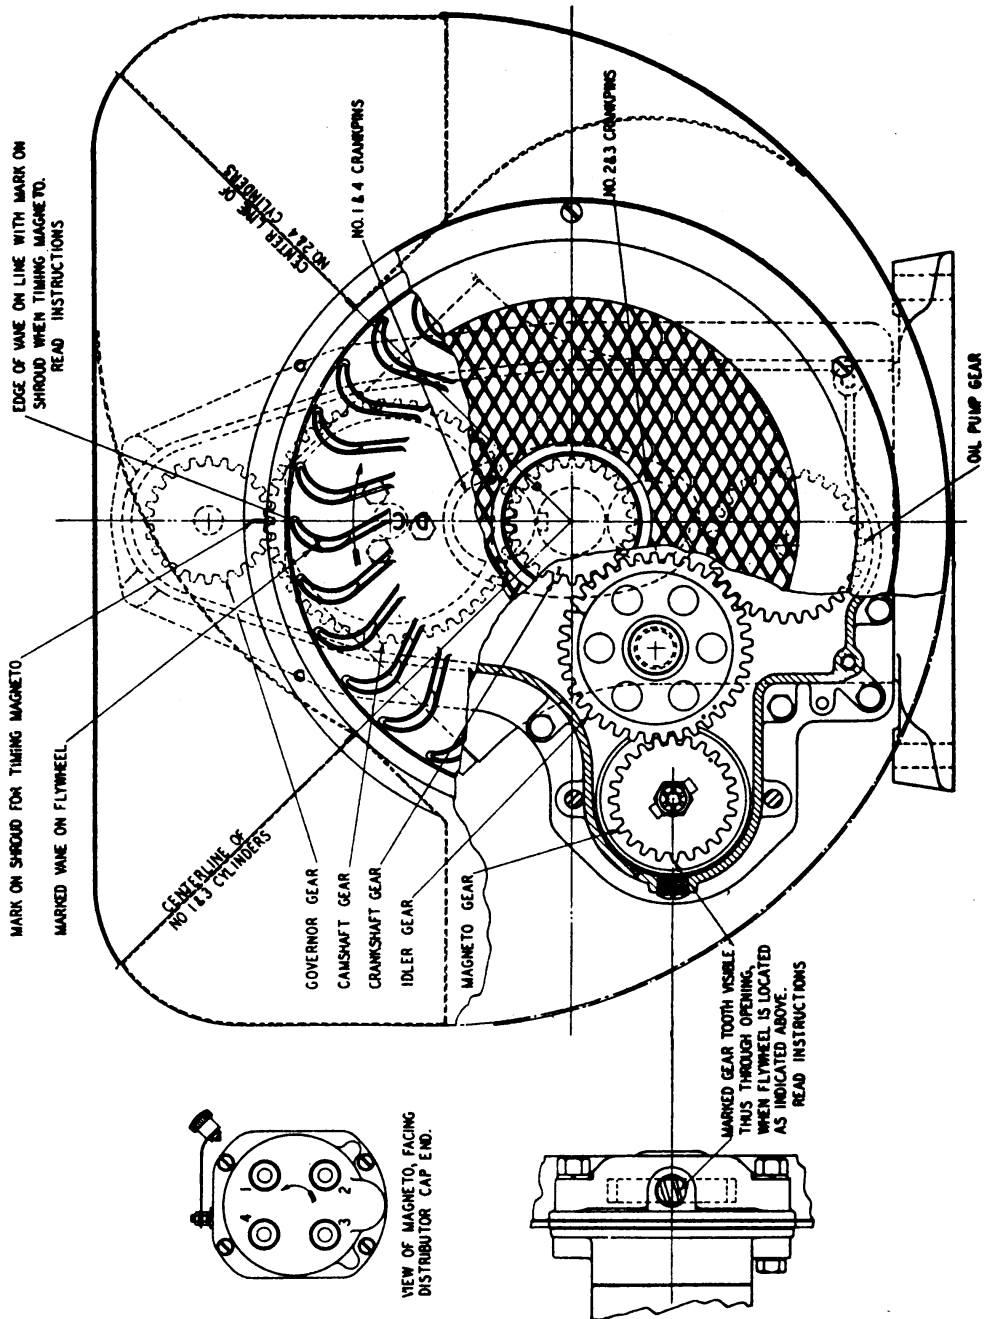

FIGURE 13.—Power Unit PE-99-G, timing diagram.
- i. **Service of Breaker Contact Points.** Contact point adjustment necessitates removal of the distributor housing which has a sealed gasket joint with the metal housing. The contact points should be examined for evidence of pitting or pyramiding. A small tungsten file or fine stone may be used to resurface the points. If the points are worn or badly pitted, they should be replaced. Points should be adjusted to have a .012 inch gap at full separation. Adjustment is made by loosening the round head locking screw at the upper end of the stationary point bracket (figures 13 or 14 or both) then turning the eccentric head adjusting screw until the proper gap is obtained, and locking the assembly by tightening the round head screw.
- m. **Special Drive Gear.** The magneto is equipped with special drive gears, mounted directly on the impulse coupling. The gear is a slip fit on the extended coupling nut, since movement of the gear with respect to the coupling nut (and rotor shaft) occurs during the impulse period. If it is necessary at any time to remove the drive gear, special care must be exercised in reassembly. First, remove the entire end cap and turn the rotor until the contact segment is in firing position for #1 cylinder (figure 13). With the rotor in this position, fit the gear to the coupling lugs so that the prick punch mark on the rim of the gear is in the position shown (figure 13).